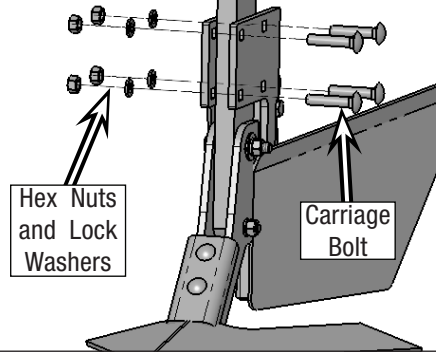

FIG. 4-46
4. Remove the carriage bolts and flange nuts then remove the ridging wings and wing spreaders. (Fig. 4-46 and 4-47)